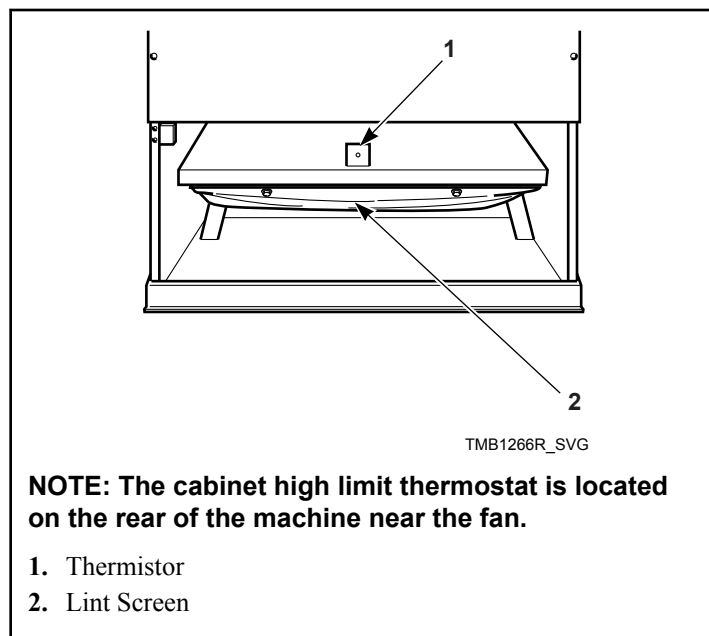

Figure 50
- e. Wipe lint off of the cabinet high limit thermostat and thermistor. Refer to *Figure 50*.